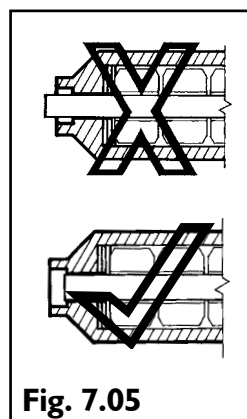

Fig. 7.05
- 2.1 Before inserting the cartridge into the chamber of the breech, ensure that the bolt is fully retracted. If not, do not use the tool as the stunning power will be reduced which can lead to an ineffective stun. (See Fig 7.05)
- ▶ Visually check that the bolt is fully retracted before firing (refer to Fig 7.05)